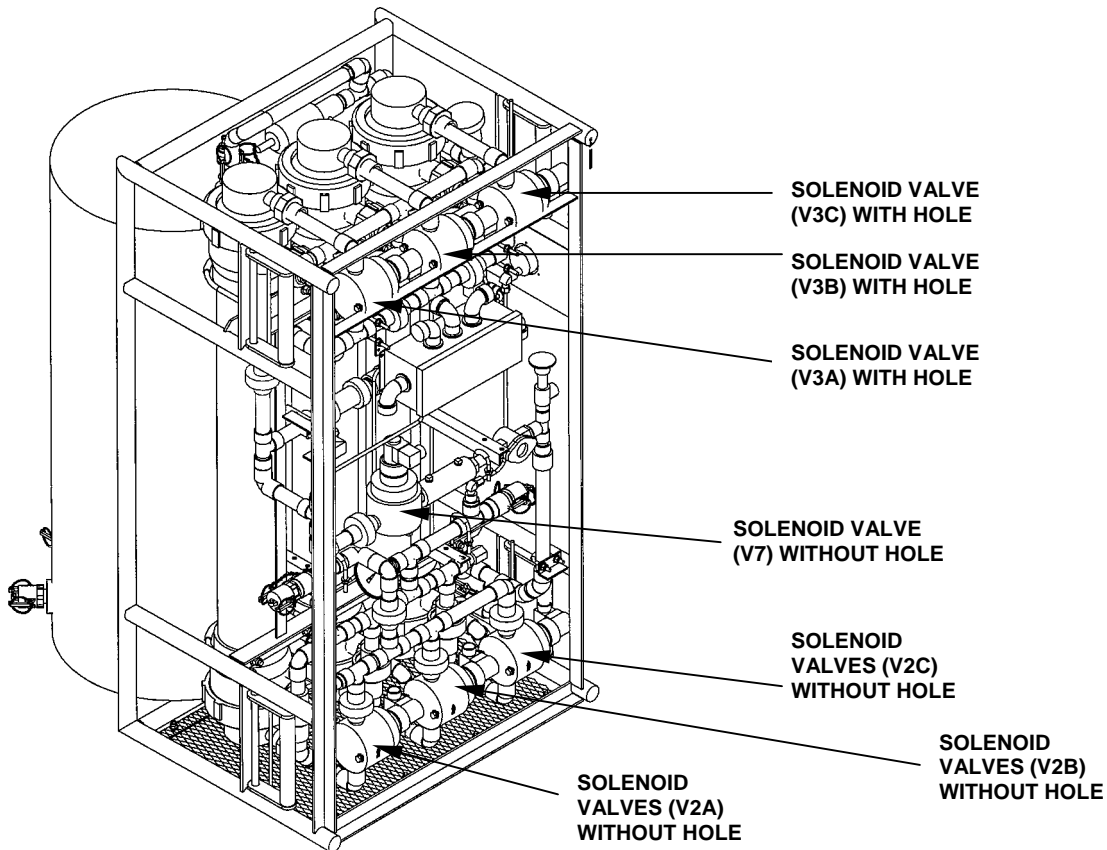

Figure 1. Ultrafiltration Module.
1. Determine solenoid valve to be replaced. See WP 0054 00 through WP 0060 00. See Figure 1.